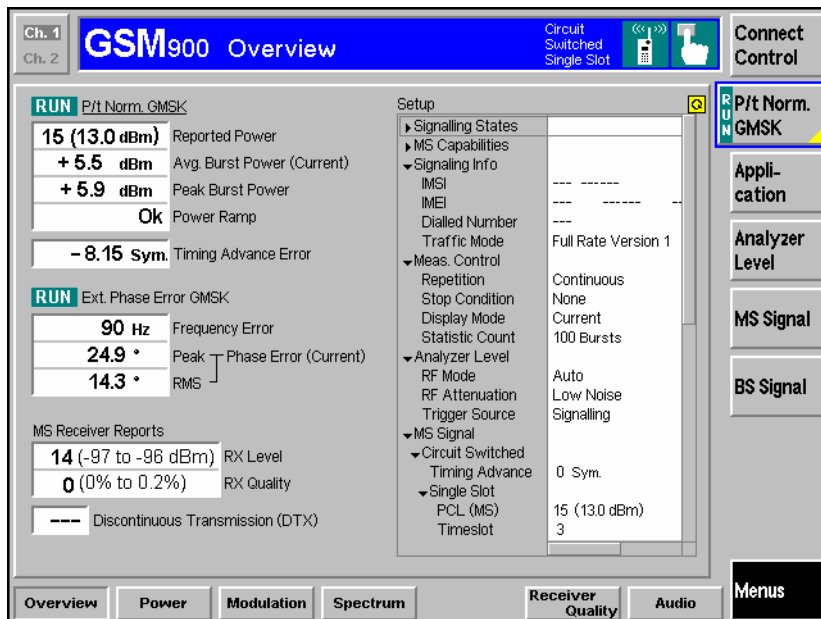

Fig. 3 GSM900 Signalling: Overview menu
- To determine the output coupling factor of your proven mobile phone, subtract the reported *RX Level* at the MS from the output level of the CMU (*BS Signal – TCH Level – Used TS*). In the example of Fig. 3 above, the output coupling factor equals to $(96.5 - 90.0) \text{ dB} = 6.5 \text{ dB}$.
- To determine the input coupling factor of your proven mobile phone, subtract the measured *Avg. Burst Power (Current)* from the *Reported Power* of the MS. In the example of Fig. 3 above, the input coupling factor equals to $(13.0 - 5.5) \text{ dB} = 6.5 \text{ dB}$.